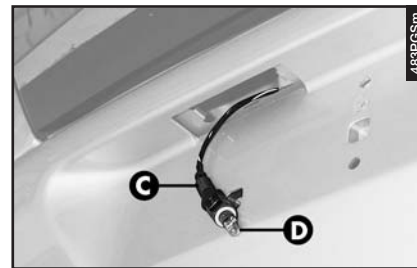

fig. 62
- Withdraw the bulb holder (C-fig. 62) turning gently and replace the bulb (D) which is snap-fitted.
- Refit the bulb holder (C-fig. 62) and the complete unit (B-fig. 61).